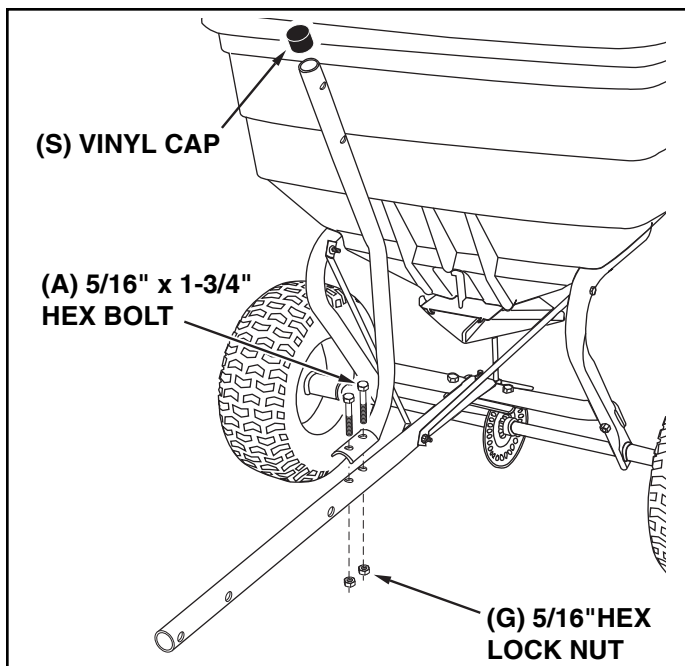

FIGURE 5
13. Assemble the flow control mounting tube to the hitch tube using two 5/16" x 1-3/4" hex bolts (A) and 5/16" hex lock nuts (G). **DO NOT TIGHTEN YET.** See figure 5.
14. Assemble the vinyl cap (S) onto the flow control mounting tube. See figure 5.